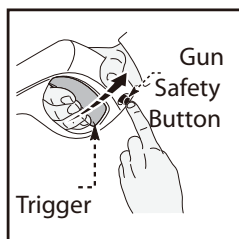

Fig. 5
- To lock the trigger of the spray gun aim the gun away from you and push the lock button from right to left, (Fig. 5), after doing so, squeeze or pull the trigger to make sure it is locked and will not move. Get in the habit of leaving the lock button in the “locked” position when the power washer is not in use. This ensures the gun is in “safe” mode until it is ready for use.